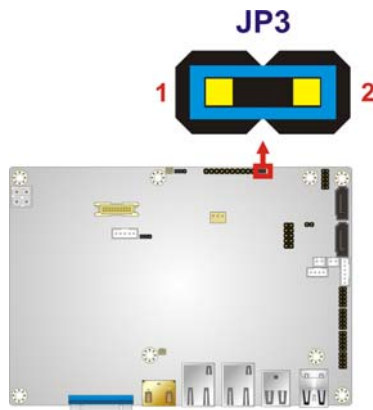

Figure 3-5: AT/ATX Power Selection Jumper Location
- Jumper Location:** See Figure 3-5